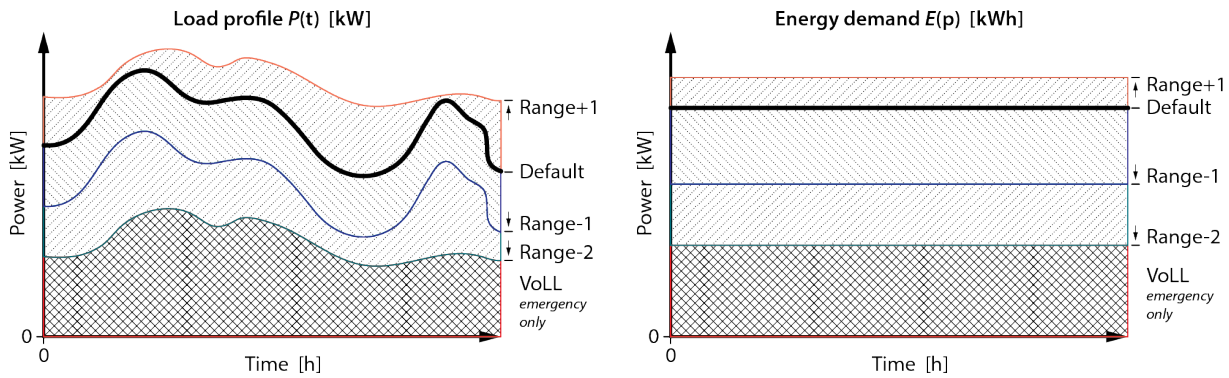

Figure 4 Non-sequential load – operation ranges of power profile $P(t)$ (left) and energy demand $E(p)$ (right)
1. Non-sequential flexibility, cf. Figure 4
- a. If a default load value $P(t)$ is supplied with less (or more) power certain internal cost can be defined, with the value depending on the $P(t)$ deviation range (Figure 4, left),
- b. At the same time, the deviation from a default energy demand $E(p)$ ⁹⁰ can be penalized in the same way (Figure 4, right);